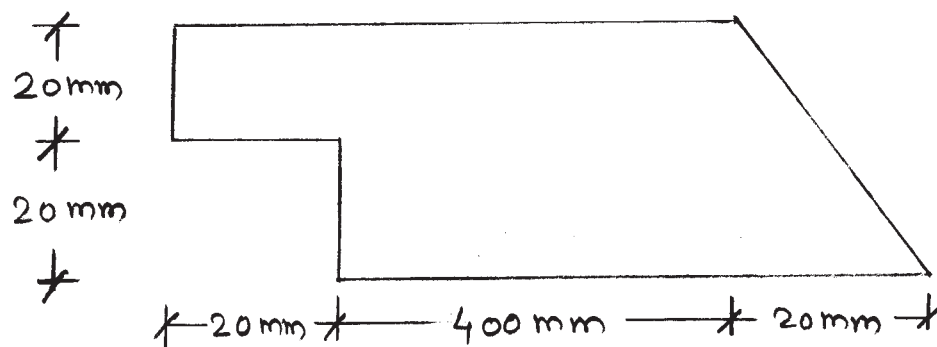

Fig. No. 9
- b) Locate the centroid of the lamina shown in Fig. No. 9.